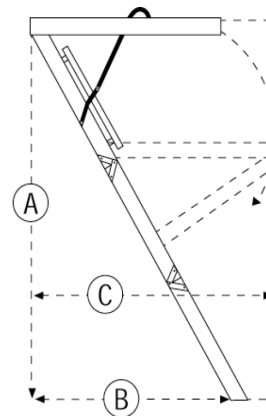
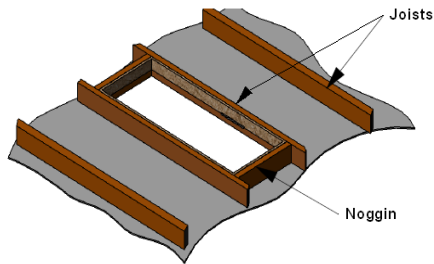

Figure 1
Figure 2
Allow ample room for the landing space of the folding attic ladder when it is opened (See Table 1 and Figure 1 below).
1. Make a rough opening in the ceiling, and frame to size as shown in Table 1 (on Page 2) & Figure 2 (below).
3. Now, insert the hook end of the pull down pole into the bracket (as shown in figure 1 on the diagram below) on the right or left hand lower leg, screw it clockwise until secured (as shown in figure 2 on the diagram below). Do not over tighten.
2. Holding on to the bottom leg, you may have to tap the power arm towards the open end of the attic ladder with the pull down pole (away from the ladder hinge.) to release the power arm (see figure 2). Now insert the hook end of the pull down pole into the bracket on the right or left hand leg and screw it clockwise until secured, and then reverse the opening procedure to close.